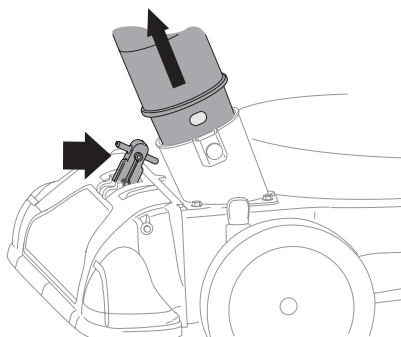

Figure 11
- Place nozzle/hose vac lever in the top position on the nozzle to vacuum through nozzle. See Figure 11.
- The spring loaded pin must be in the first hole (closest to the end of the tube) of the hose adapter to operate the nozzle vac. See Figure 11.